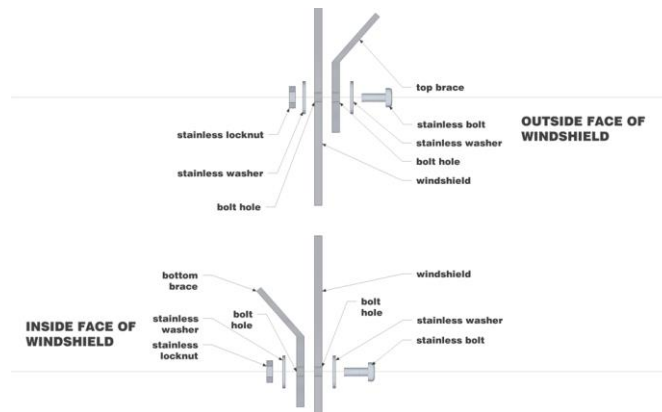

Fig. 1
2. Pull the windshield and all of the hardware out of the box. Begin by peeling back the protective film(both sides) from all bolt slot areas, top and bottom bracing areas, and 1" or so from the hood contour (gasket area). This will allow installation with most of the protective film in place to avoid scratching the windshield during handling. Firstly install the top and bottom bracing according to fig. 1, using the hardware provided. Note that the top bracing is narrower than the bottom bracing. Next, install the Velcro straps to the sides of the lower windshield as illustrated in photo 1. Ensure the strap plates are installed on the outside, with the webbing strap between it and the face of the windshield. All bolt heads should be facing the front, with the locknuts installed on the inside of the windshield. Use one flat washer each under the bolt heads and behind the locknuts.